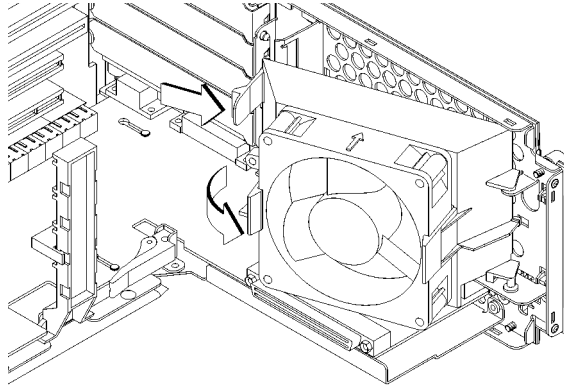

Figure 45
- 8 Make sure that the EISA fan is fully rotated, as shown in Figure 45.